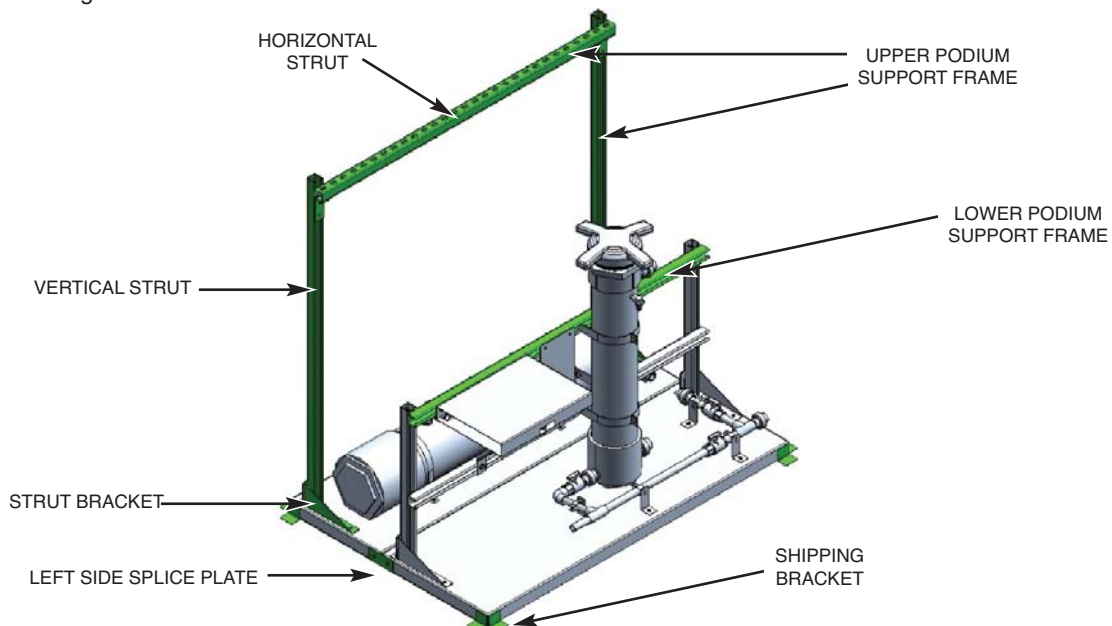

Figure 4 – Assemble BCF-NX and Inhibitor Storage Modules
- 2.5 Set the Inhibitor Storage Module in desired location. Secure (2) Vertical Struts to the (2) Strut Brackets using the supplied hardware. See Figures 4 and 5.
- 2.6 Attach the Horizontal Strut, open side down, to the supports using the supplied hardware to complete the Upper Podium Support Frame. See Figures 4 and 5.
- 2.7 Set the **BCF-NX** Module in front of the Inhibitor Storage Module. It will be necessary to remove shipping brackets to properly join modules. Reuse shipping bracket hardware to attach the splice plate to the left side of the Inhibitor Storage Module to the **BCF-NX** Module. See Figure 4.